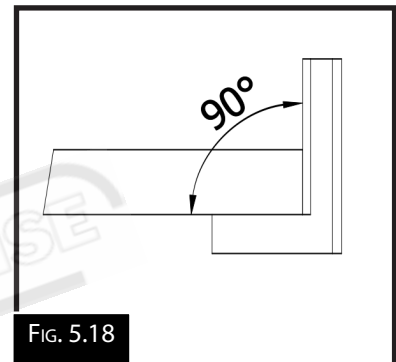

FIG. 5.18
1. Replace with a new blade and check for squareness. The workpiece should be as per Fig. 5.18